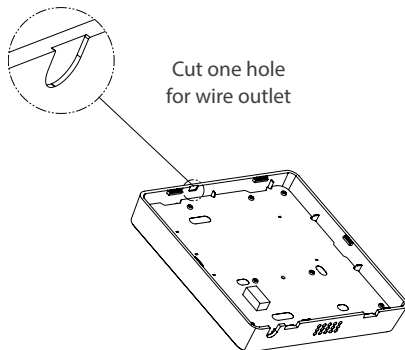

Fig. 5
- a. For exposed mounting, cut holes on four of the sides according to Fig. 5.